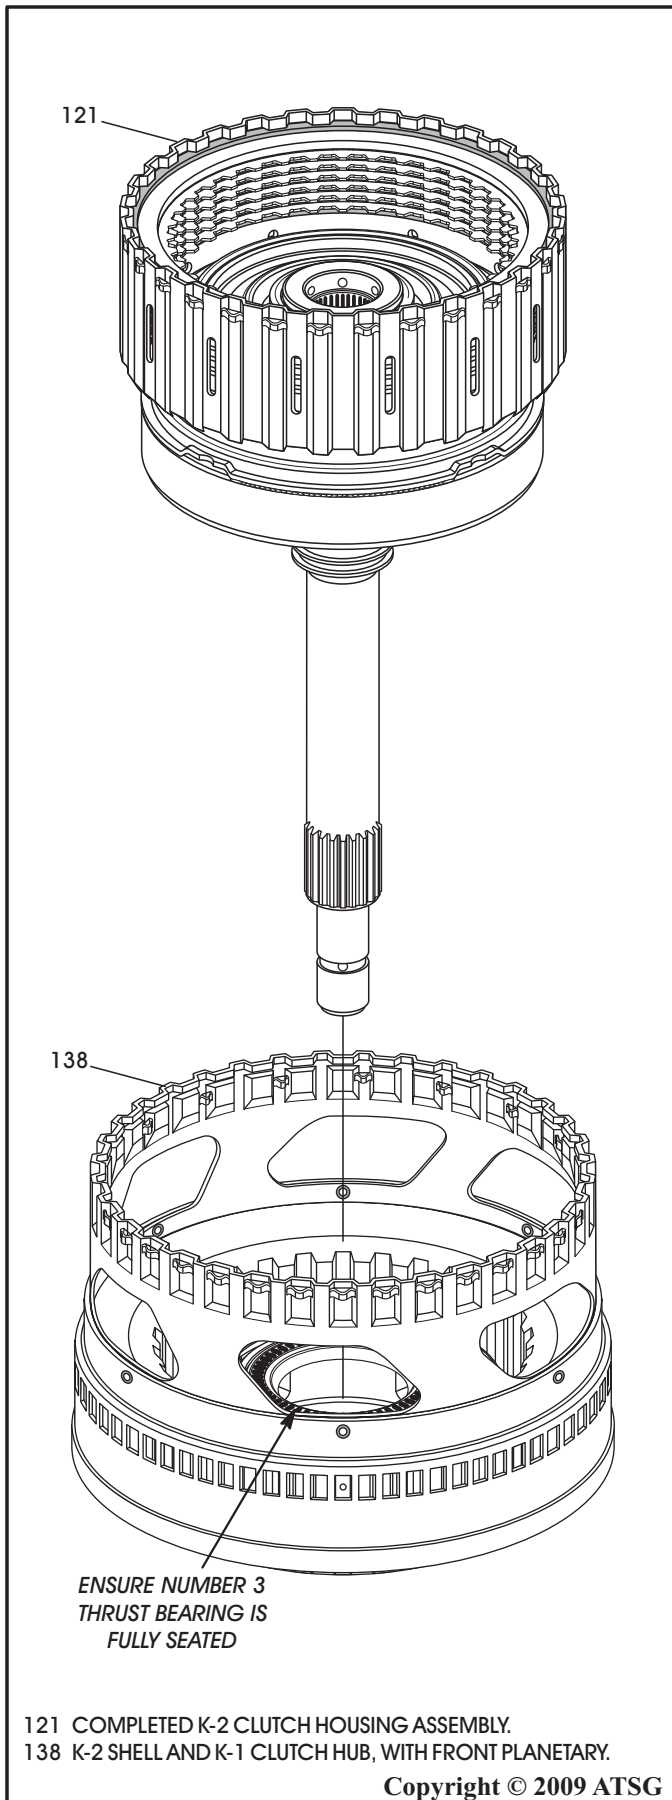

Figure 117
34. Install the completed K-2 clutch housing into K-2 shell assembly, as shown in Figure 117.